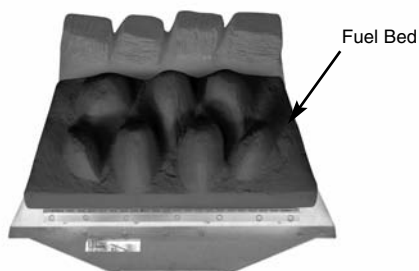

Fig. 80
2. Place the main fuel bed on to the middle section of the metal burner tray. It is important that the front edge of the fuel bed is located behind the burner strip (Fig. 80).